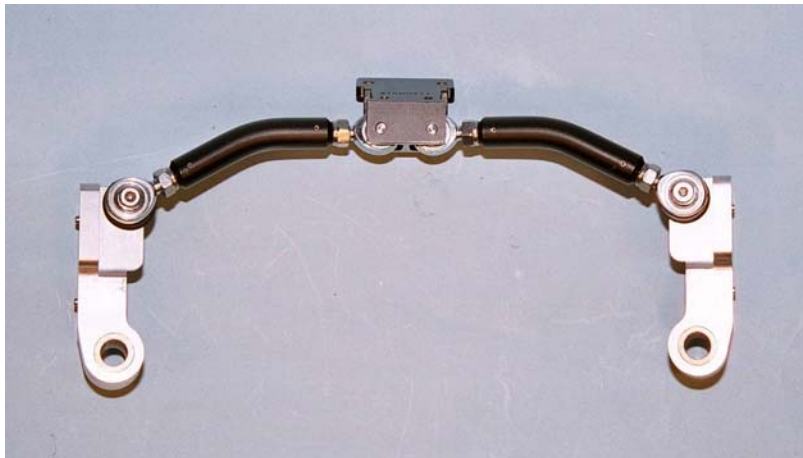

Figure 8.6- Assembled Clavicle /Yoke mount
4. Repeat step three to attach the left clavicle assembly to the Left Shoulder Yoke Mount Assembly (T1SHM006). The completed Clavicle / Yoke mount assembly is shown in **Figure 8.6**.